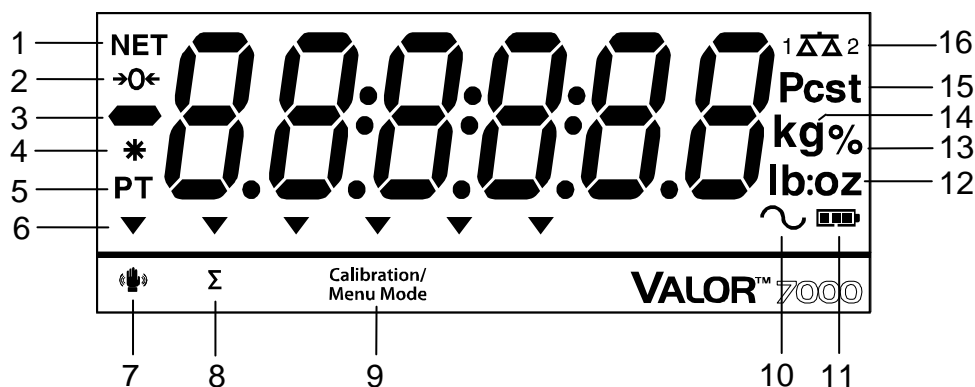

Figure 3-2. LCD Display
The scale can be used on AC power immediately. Allow the battery to charge for 12 hours before using the scale on battery power. The Scale will automatically switch to battery operation if there is a power failure or the power cord is removed. With AC power, the scale is constantly charging, so the battery charge indicator (see item 11 in figure 3-2) will remain lit. The scale can be operated during charging, and the battery is protected against overcharging.